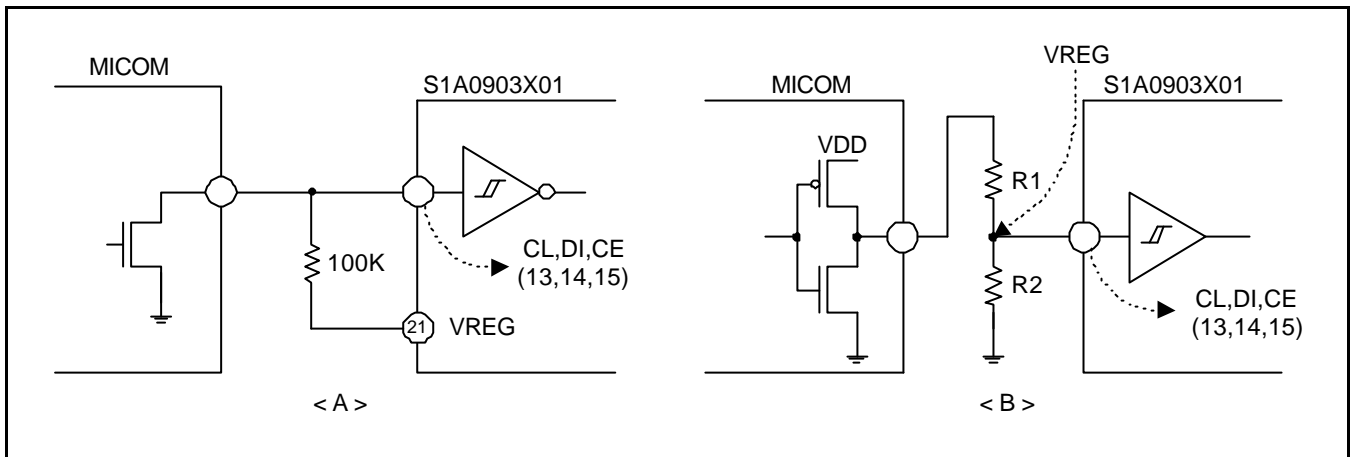

Figure. 19 Connection between SIO and Microprocessor
3. Application of a input pin CE, DI, CL depends on the output of Micro-processor(Figure. 19). Input pin of CE, CL, DI must be set to be VDD using R1 and R2 In the case of Figure.19 .